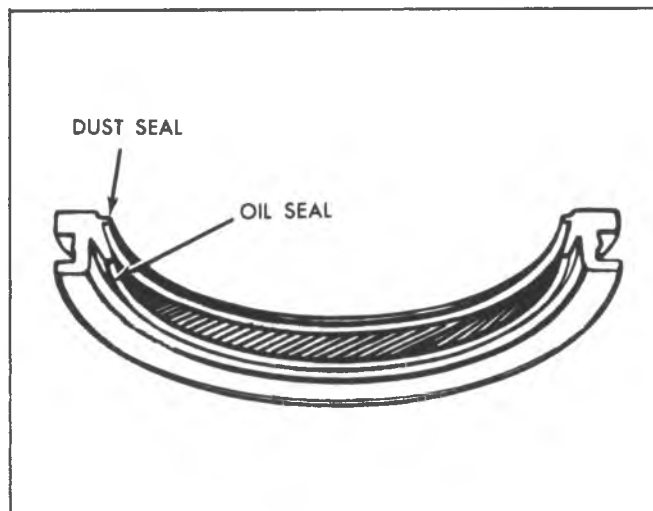

Fig. 6A4-49--Crankshaft Oil Seal - Rear Main
8. Position seal between crankshaft and tip of tool so that seal bead contacts tip of tool. Make sure that oil-seal lip is positioned toward front of engine (fig. 6A4-49).